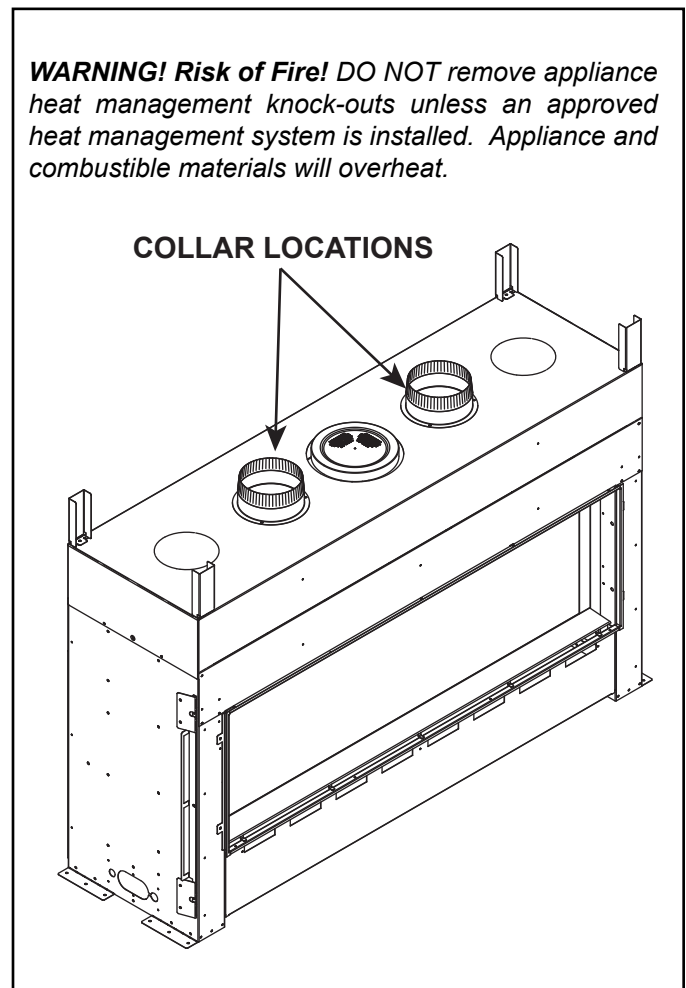
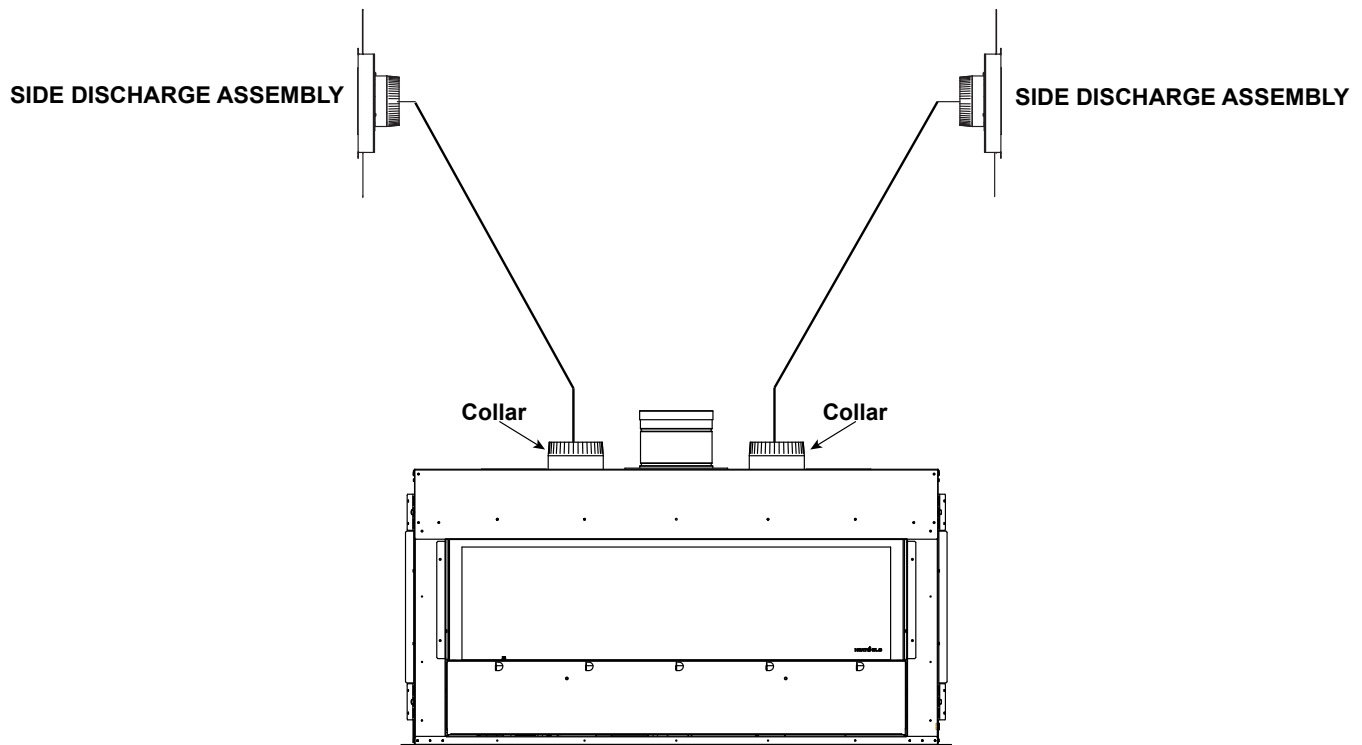

Figure 5.10 Remove Passive Heat Knockouts
Figure 5.11 Ducted Passive Heat - Side Discharge Configuration / Remove Heat Management Knockouts.
9. Install collars over the openings using hurricane screws provided in the kit. PHSI-MCE kits must be installed on the two inside passive heat knockouts. See Figure 5.10 and Figure 5.11.